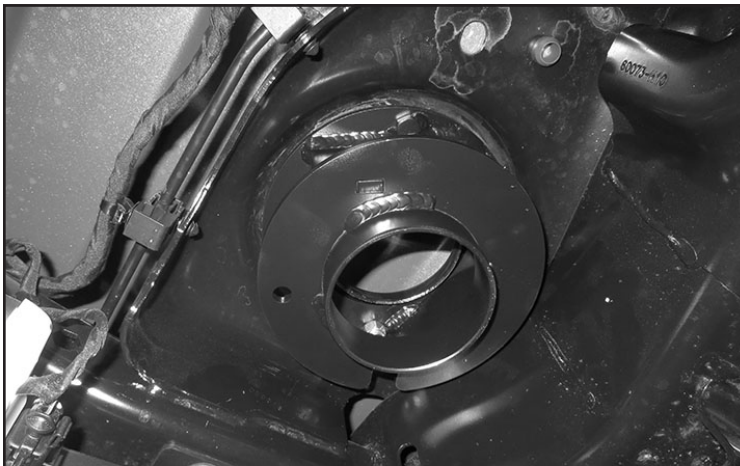

FIGURE 30 - STEP 25
25. Install the new rear spacer using the supplied 3/8" hardware. **SEE FIGURE 30**